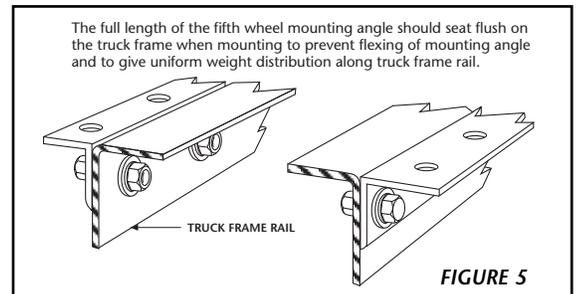
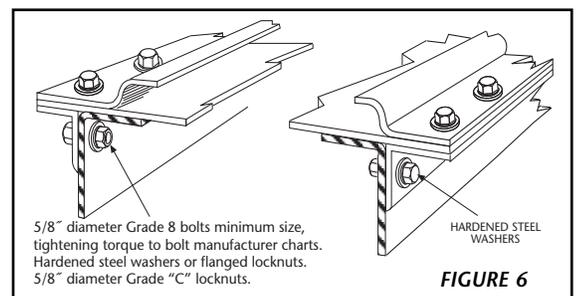

FIGURE 5
FIGURE 6
Outboard Angle Mounting (See Figures 5 and 6):
- In addition to the information given in "Installation: General Recommendations," on page 1, follow the recommendations in **Figure 5** and **Figure 6**. The following sequence is suggested:
- Securely position the mounting angles to the tractor frame and attach as shown in **Figure 5**. Follow the bolting recommendations as shown in **Figure 4**. Angles must be flush with the top of the truck frame.
- Align holes in the slide plate with outboard angle mounting holes and bolt using Grade 8 fasteners, hardened steel washers and Grade C locknuts, properly tightened, (see **Figure 6**). Use all mounting holes on the fifth wheel.